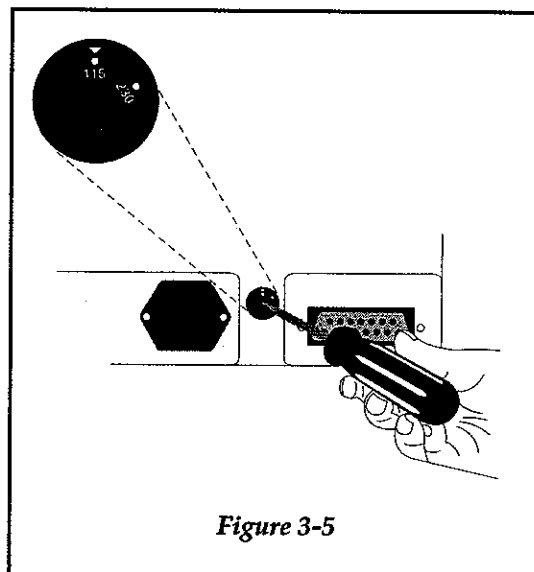

Figure 3-5
- Step 4** Make sure the voltage selector switch on the back of the unit is set correctly. Figure 3-5.